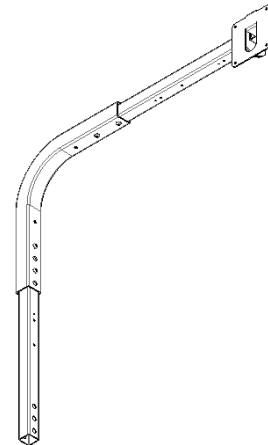

Fig. 4. Completed Assembly Mount
- Complete Assembled Mount. See Fig. 4.